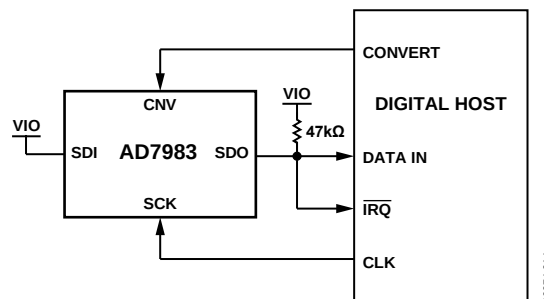
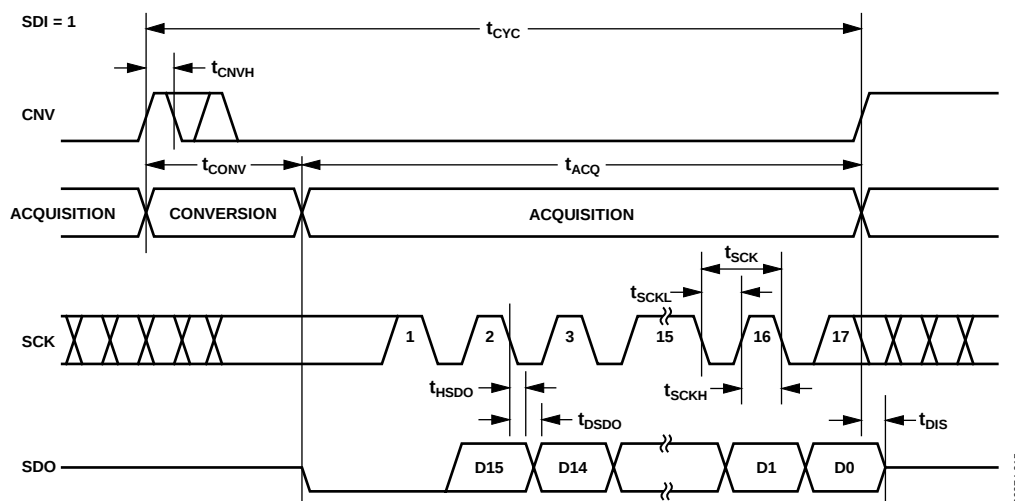
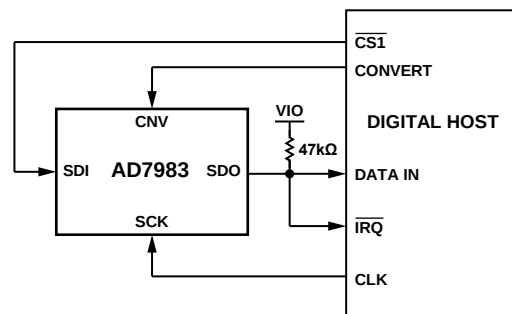
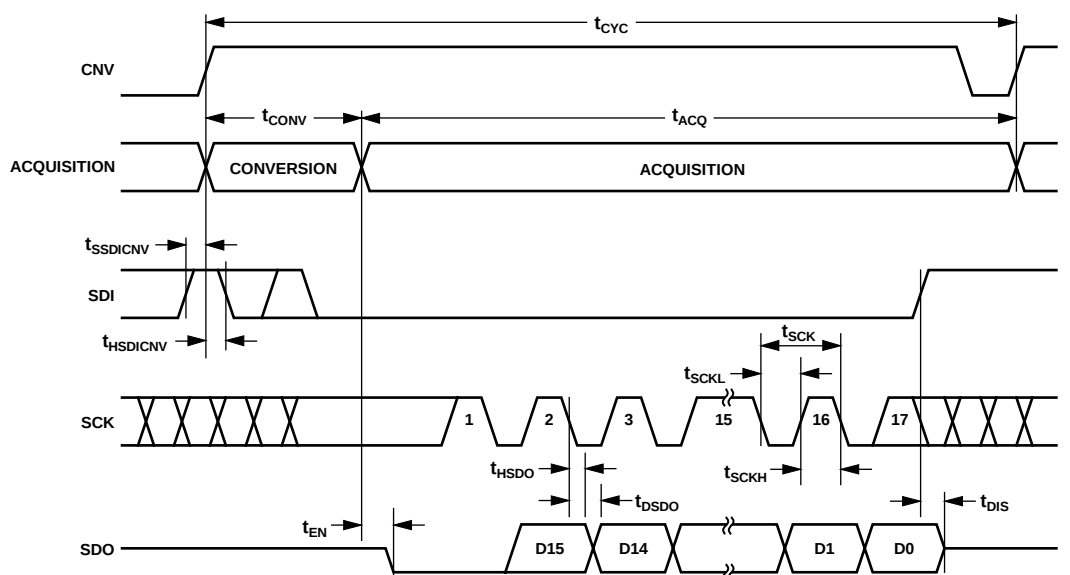

Figure 27. $\overline{\text{CS}}$ Mode, 3-Wire with Busy Indicator Connection Diagram (SDI High)
Figure 28. $\overline{\text{CS}}$ Mode, 3-Wire with Busy Indicator Serial Interface Timing (SDI High)
Figure 31. $\overline{\text{CS}}$ Mode, 4-Wire with Busy Indicator Connection Diagram
Figure 32. $\overline{\text{CS}}$ Mode, 4-Wire with Busy Indicator Serial Interface Timing
- In $\overline{\text{CS}}$ mode if CNV or SDI is low when the ADC conversion ends (see Figure 28 and Figure 32).
The connection diagram is shown in Figure 27, and the corresponding timing is given in Figure 28.
The connection diagram is shown in Figure 31, and the corresponding timing is given in Figure 32.